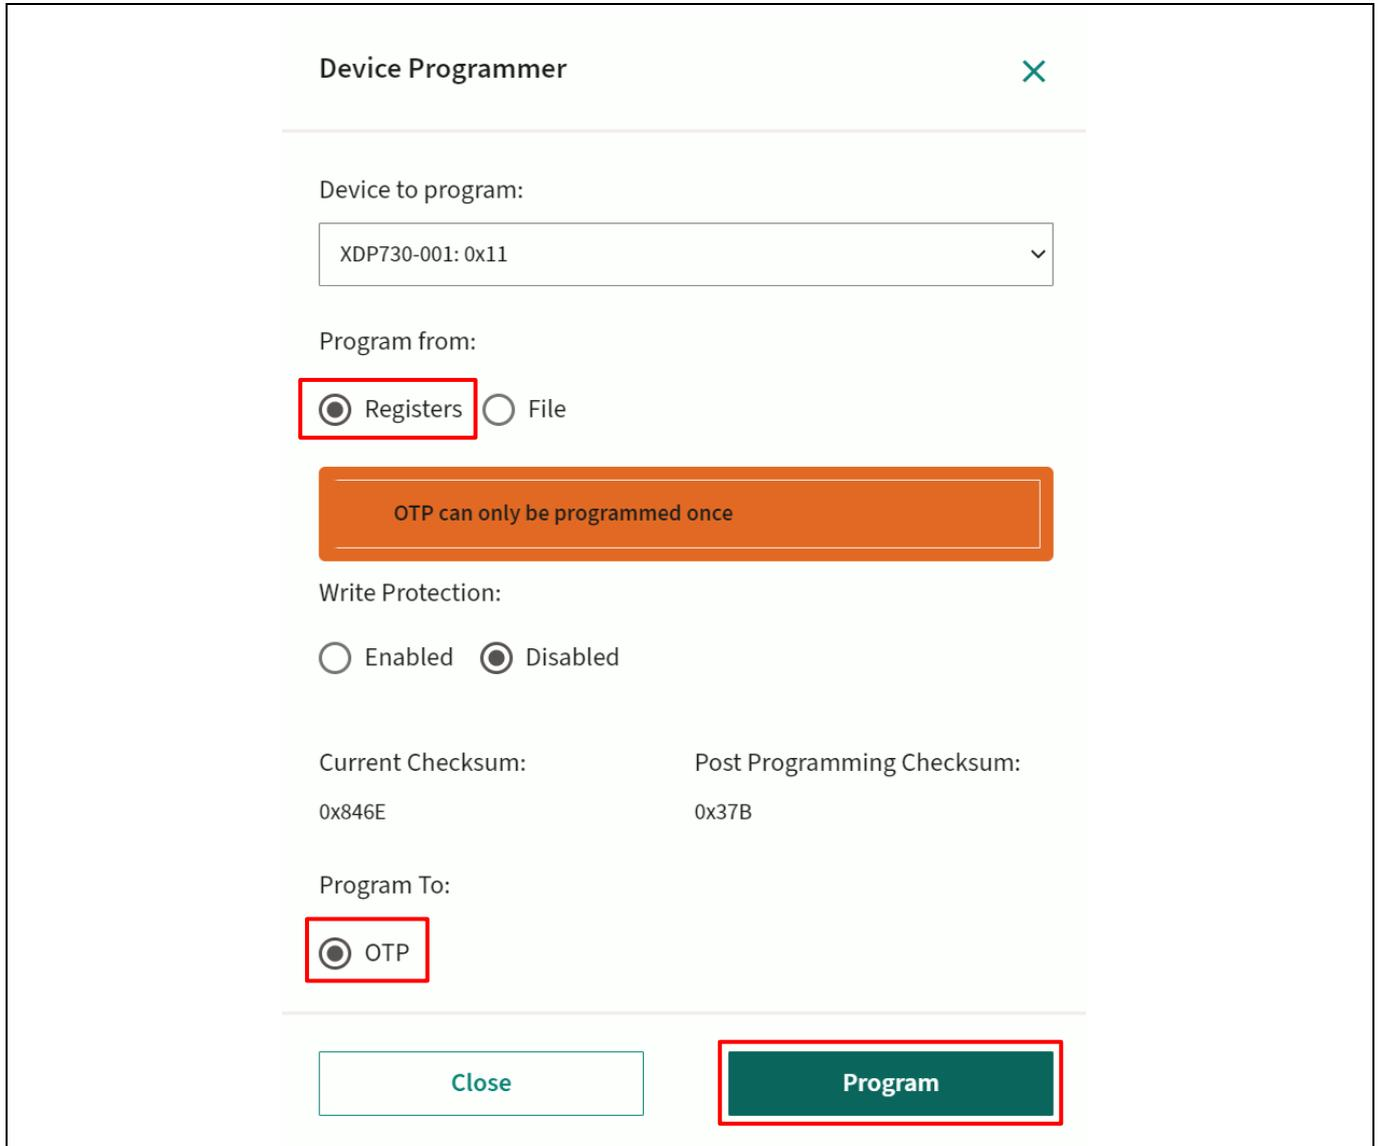

Figure 26 OTP programming
- Set the program from **Registers**, select the memory section Program To **OTP** that needs to be programmed and then click **Program**, as shown in Figure 26